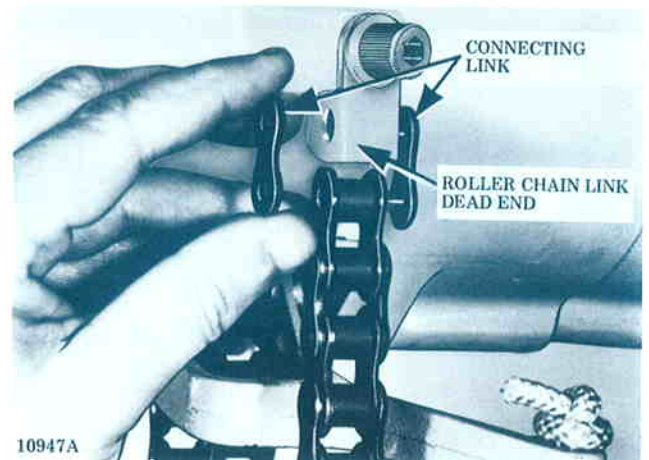

Figure 7-1. Removing Connecting Link at Tail End of Load Chain (Roller Chain Models).
(3) **Roller Type Load Chain.** Visually check for possible twists, broken links, wear or elongation. Check roller chains for elongation from wear by pulling chain taut and measuring as follows: On RC-625 or H-5 size chain (5/8" pitch), measure distance over a length of 20 pitches (center-to-center distance between 21 rivets) – it must not exceed 12-3/4 inches. If chain exceeds this limit, replace damaged section or install new load chain assembly. Check chain for twist. If twist in any 5' extension exceeds 15°, replace chain. Check chain for camber. If any section has side bow exceeding 1/4" in five feet, replace chain. Use only factory approved chain. If chain is to be spliced to replace damaged section, it is recommended that this be done by an Authorized Repair Station, since splicing link must have a spun head requiring special tools. Spring link must not be used except to secure the tail chain to the hoist frame. (See Figure 7-1.)
(1) On models with single reeved load chains (1/4, 3/8 and 1/2 ton), disconnect end of load chain from tail end anchor boss at side of hoist frame. Remove chain anchor by prying off spring clip and remove connecting link, attaching chain to anchor boss on roller chain models (Figure 7-1). Remove socket head cap screw, holding end